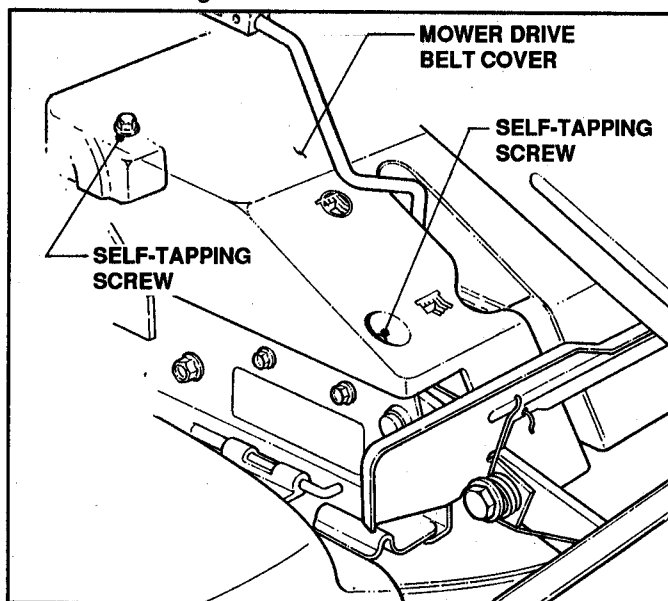

FIGURE 3.3
- (b) Remove four self-tapping screws, two on each side of mower drive belt cover. See Figure 3.3.